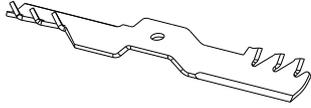

FIG 3
- b) Mulching Blade and Grass Board: see FIG 3